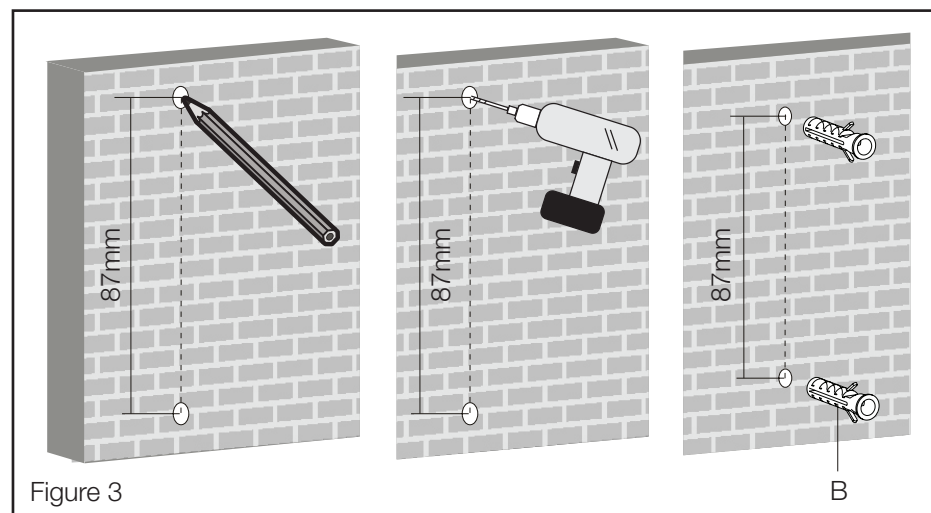

Figure 3
3. Fully insert the concrete anchors (B) (see Figure 3) into the drill holes. Tap in with hammer if required.